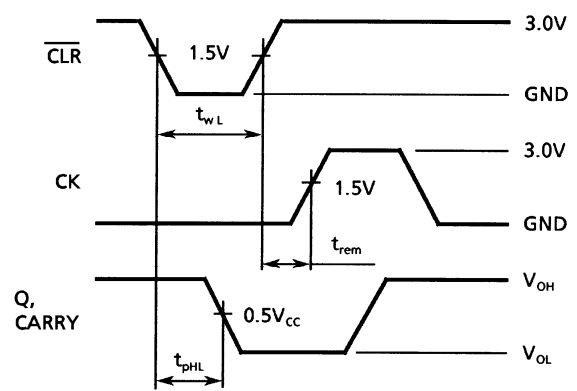

Figure 4
| Minimum pulse width (CLR) (Note 1) | t _W (L) | Figure 4 | 5.0 ± 0.5 | 5.0 | 5.0 | ns |
| Minimum removal time (CLR) (Note 1) | t _{rem} | Figure 4 | 5.0 ± 0.5 | 1.0 | 1.0 | ns |
| Propagation delay time (Note 2) (CLR-Q) | t _{pHL} | Figure 4 | 5.0 ± 0.5 | — | 6.3 | 10.0 | 1.0 | 11.5 | ns |
| Propagation delay time (Note 2) (CLR-CARRY) | t _{pHL} | Figure 4 | 5.0 ± 0.5 | — | 7.7 | 12.3 | 1.0 | 14.0 | ns |